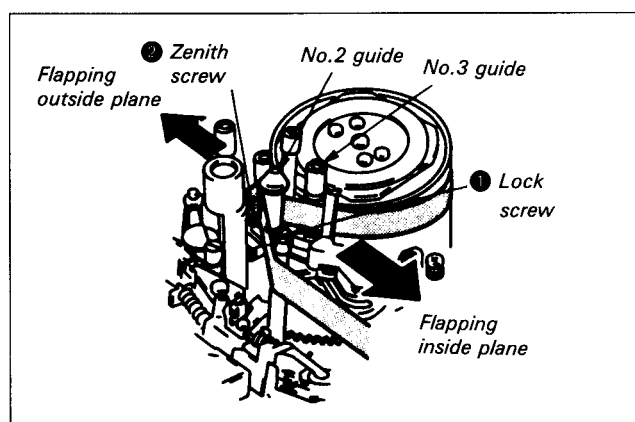

Fig. 7-66.
- 1) Playback the tracking alignment tape (WR5-1C) and loosen No.2 guide lock screw ①, and rotate No.2 and No.3 guides counterclockwise to free tape running on the entrance side. (See Fig. 7-66.)
Adjust the No.2 guide zenith screw ② by turning it counterclockwise 90° at a time. (See Fig. 7-66.)
- 7) Tighten No.2 lock screw ①. (See Fig. 7-66.)